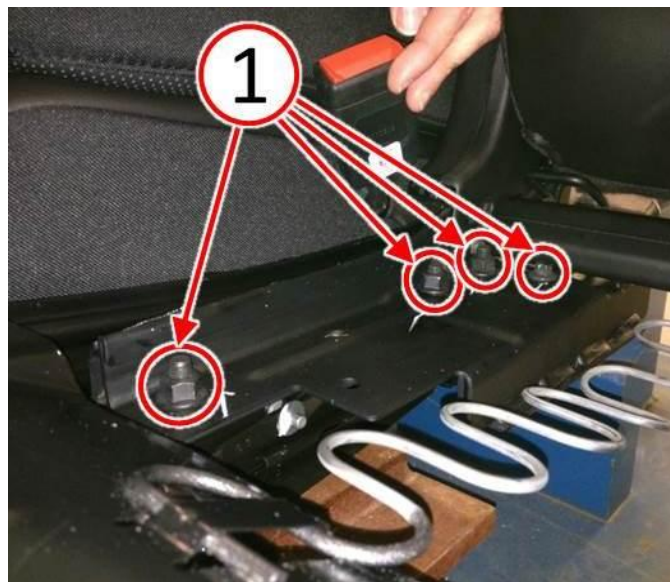

Fig. 8 Remove Seat Cushion To Access Seat Rail Fasteners
20. Loosen the 60 percent side inboard seat track fasteners (1) (Fig. 8).